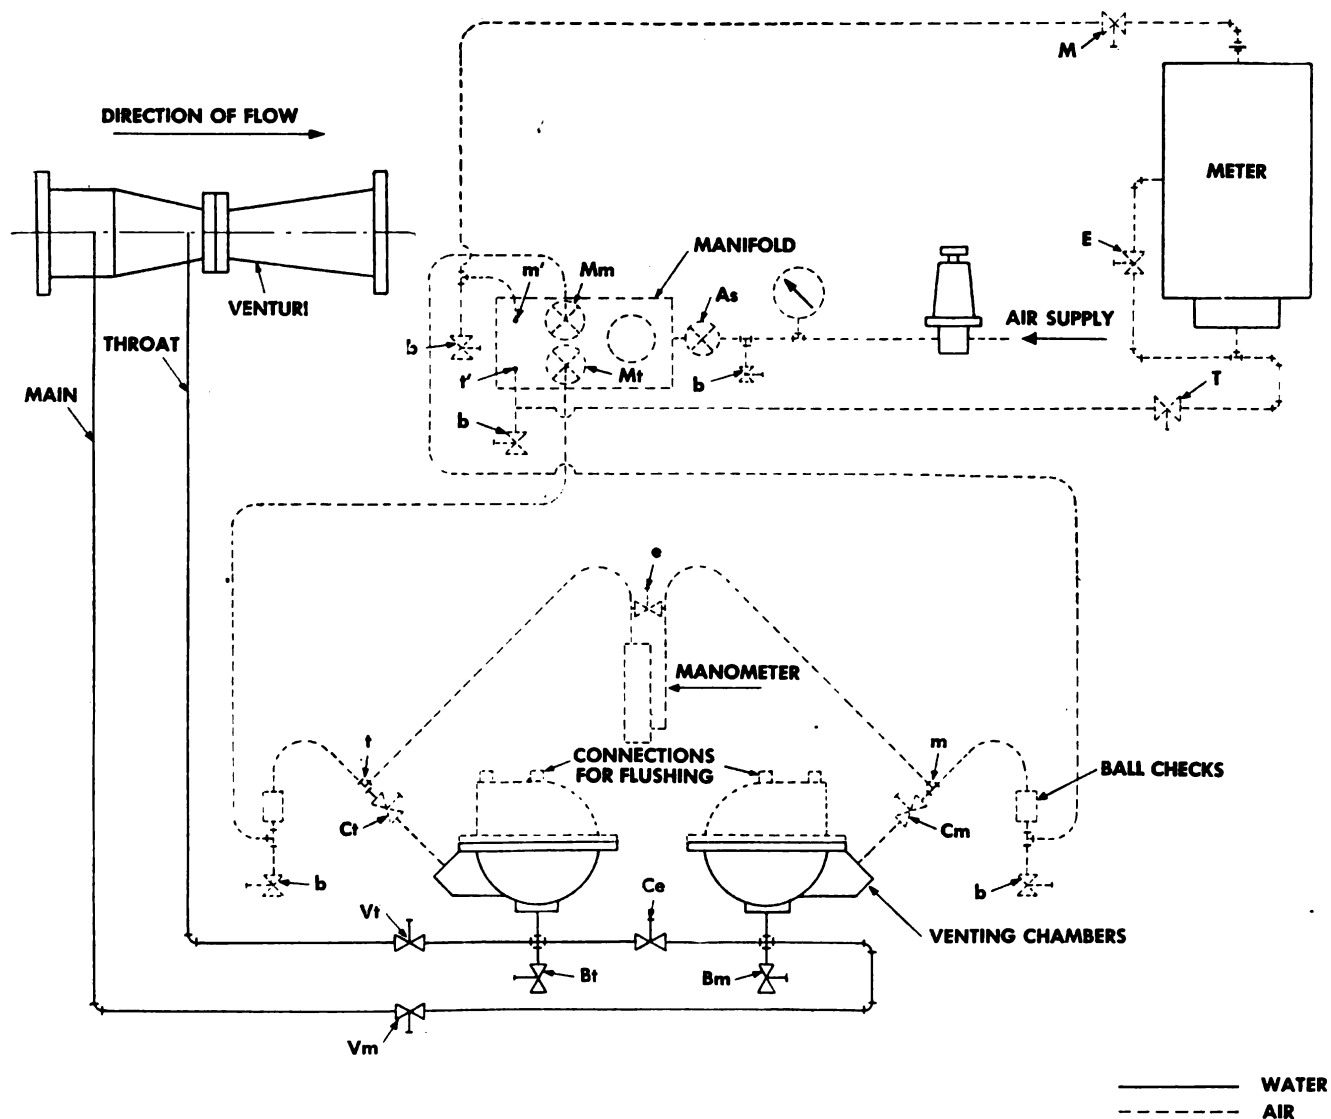
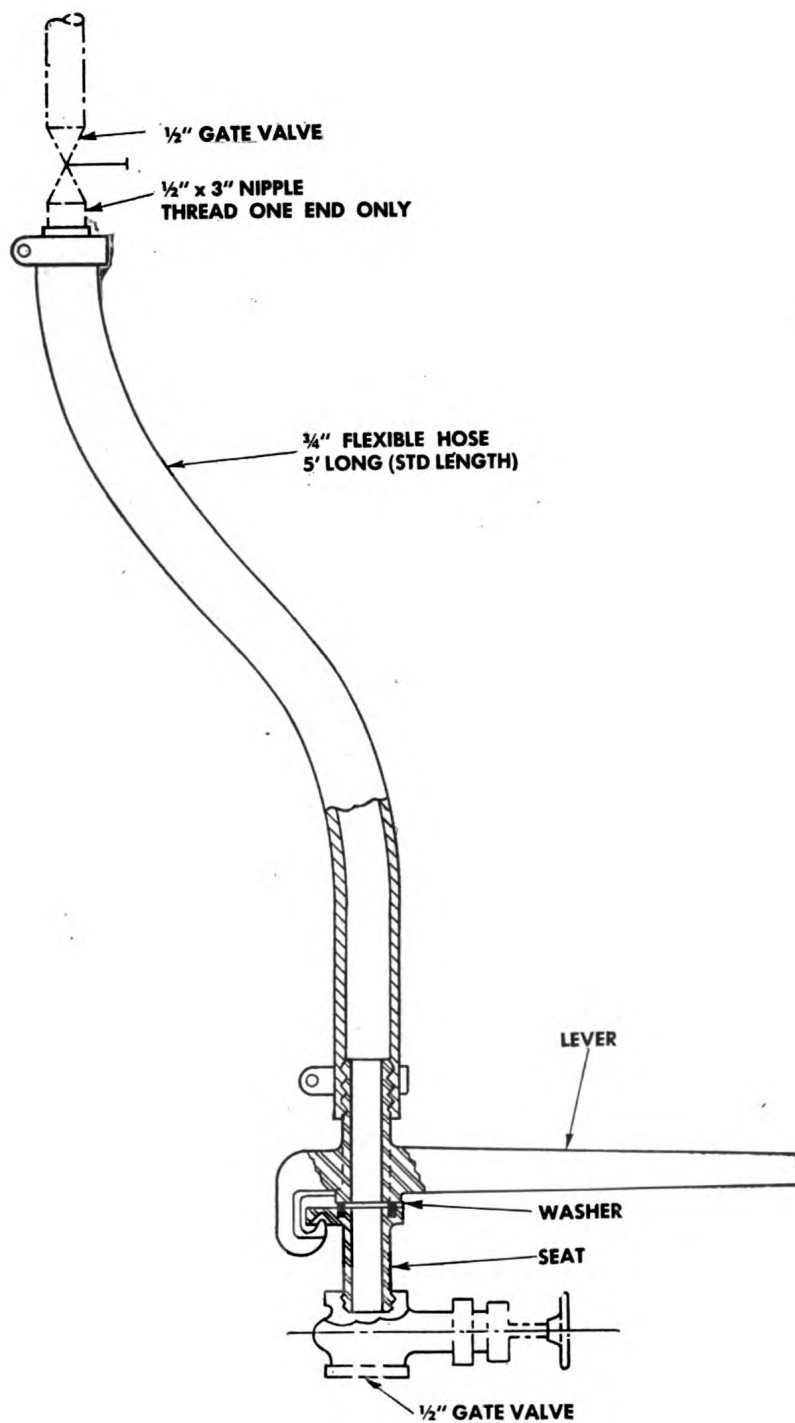

Figure 63. Piping diagram for air-operated venturi meters.
Figure 64. Simplex disconnecter assembly.
d. **AIR-OPERATED METERS.** (1) *Service venturi tube.* Free air lines of any water or condensation. Flush venting chambers and pressure belts and lines to venturi tube. Make sure proper pressure of clean dry air is delivered to the manifold.
(4) *Clean pressure belts.* Close valves M and T (fig. 63) at meter cylinder, open equalizing valve, and close valves Ct and Cm, removing meter from service. Flush venting chambers by closing valves Vm and Vt applying disconnecter (fig. 64) at connections, and opening blowout valves Bt and Bm.